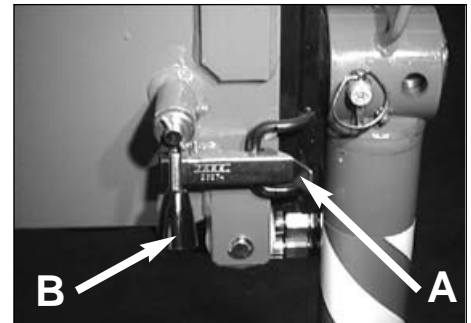

fig. 10
- Disengage the locking devices of the outrigger supports by putting the levers of the devices **A** and **B** from the position of the fig. 10 to the one of the 10a.
Keep hands clear of automatic stop device (lever **A** of the fig. 10).